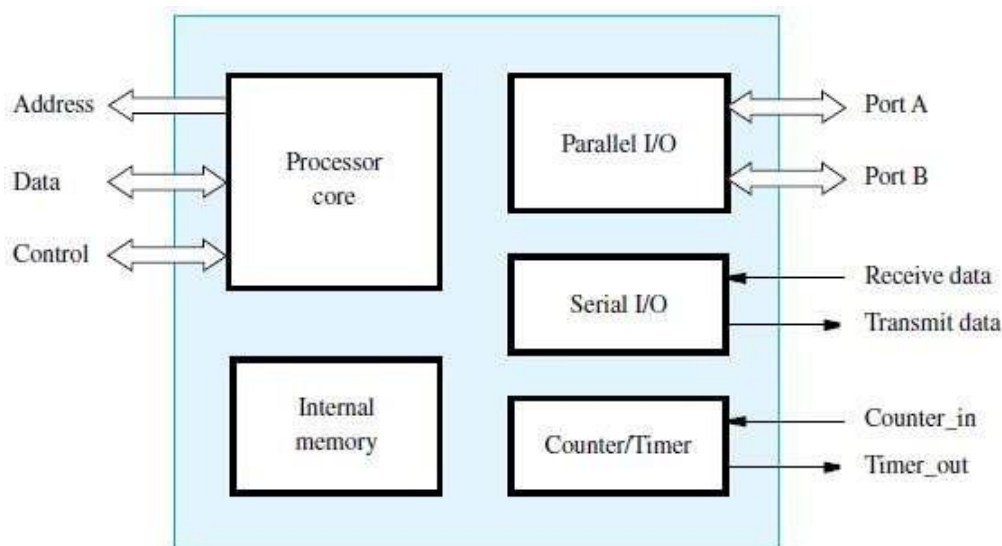

Figure 10.4 An example microcontroller.
- Each parallel port has an associated 8-bit DDR (Data Direction Register) (Figure 10.4).